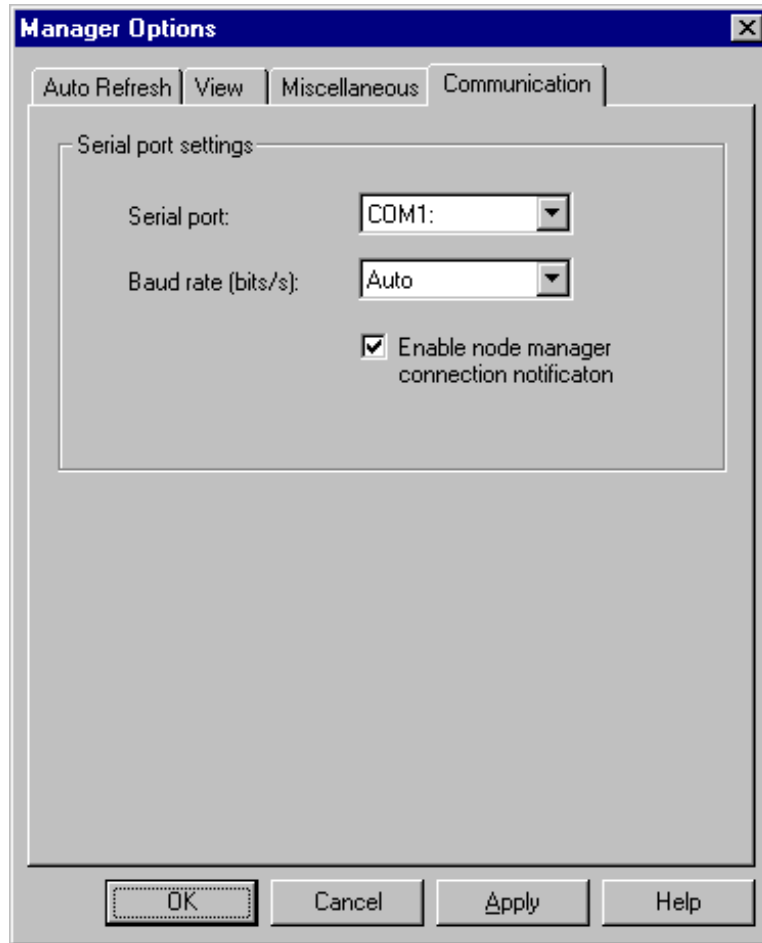

Figure 6. Manager options: Serial port
1. Click **Tools** → **Options** → **Manager Options** on the menu. In the **Manager Options** dialog box, click the **Serial Port** tab and set the serial port and the baud rate for the connection (see Figure 6).